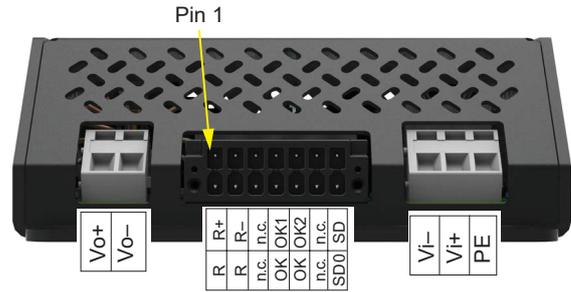

Fig. 13
- Auxiliary connector: Phoenix Contact 1713883; pin allocation see fig. 13.